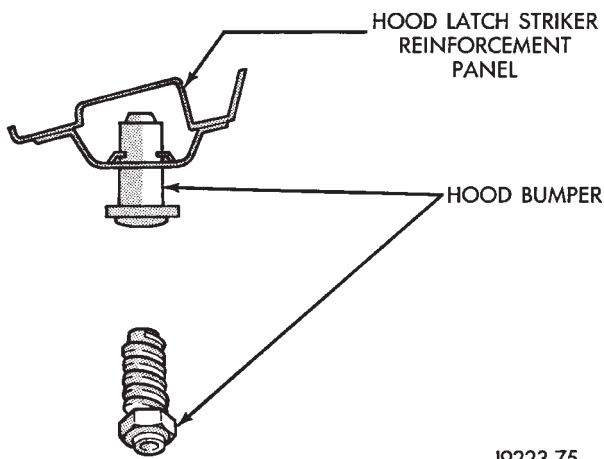

Fig. 18 Hood Bumper
- (1) If hood is low to the cowl panel, insert shims between the hinge and hood at the rear hinge bolts.
- (2) Adjust the hood bumper (Fig. 18) in or out to provide proper hood-to-fender height alignment.